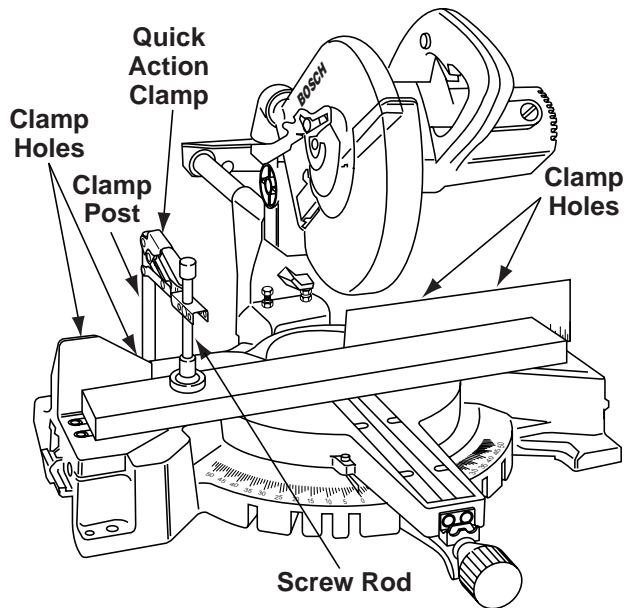

Figure 20. Quick Action Clamp
Quick Action Clamp - This clamp easily secures a workpiece in any of four (4) clamp holes behind the fence (Figure 20).